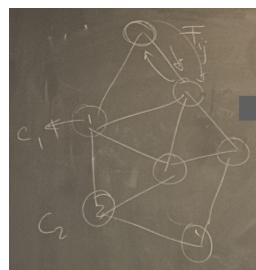

Figure 2.16: Simplified graph of a biochemical network.
- Consider a (biochemical) network, with control over each local internode transition (Figure 2.16).